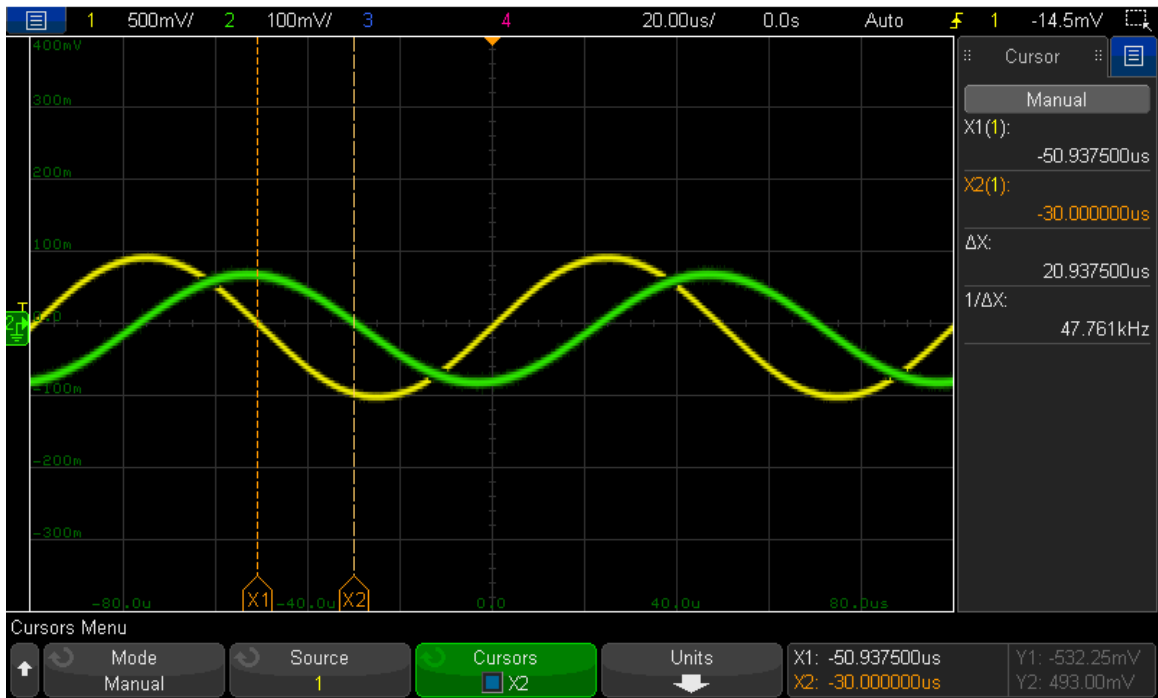

Figure 23: Using cursors to measure phase difference in seconds
- Touch and drag the cursors (see Fig. 23) to measure phase difference in seconds.